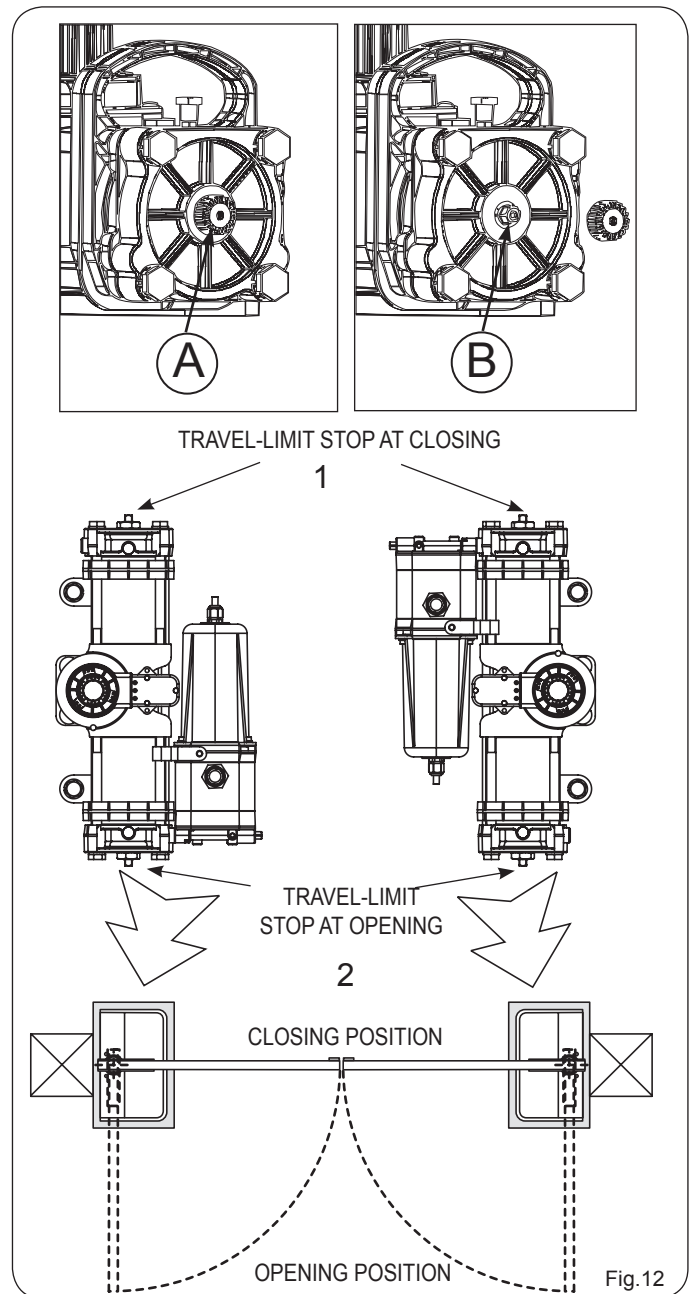

Fig.12
- 3) Unscrew the cap (Fig.12 ref.A) of the closing travel-limit screw (Fig.12 ref.1)
- 4) UNSCREW the travel-limit stop screw (Fig.12 ref.B) at closing (Fig.12 ref.1), until the leaf begins to move.
- 7) Unscrew the cap of the screw (Fig.12 ref.A) of the opening travel-limit stop (Fig.12 ref.2).
- 8) UNSCREW the travel-limit stop screw (Fig.12 ref. 2), until the leaf begins to move.